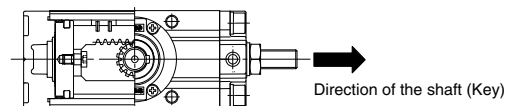

Fig. 3 Direction of the assembly of the shaft
- 2-2. Mount the tube gasket ⑪ to the left cover ③ to mount to the body ①. Tighten them with the hexagon socket head cap screw with washers ⑮.
- 2-3. Insert the rack ⑥ and the piston ④ and ㉓ into the body. Set the lower bearing ⑭ to the housing in the body. At this time, the piston assembly should be inserted carefully so as not to damage the piston seal ⑫ through which the housing for the bearing of the body will pass.
- 2-4. Push the rack and the piston until it touches the left cover. Mount the shaft ⑤ to the body. Refer to Fig. 3 for the direction of the keyway (facing to the right cover ㉒).
- 2-5. Mount the upper bearing ⑭ and the bearing retainer ⑩ to the shaft and the body. Tighten them with the cross recessed round head tapping screw ⑰.